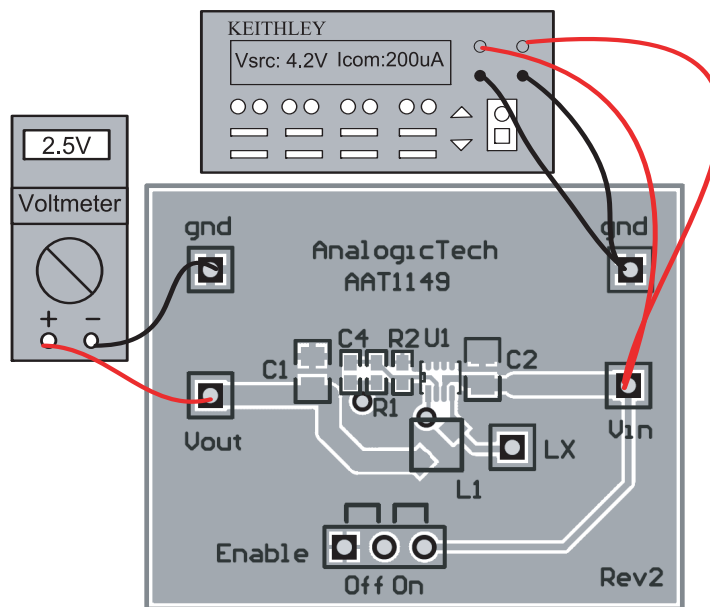

Figure 5: AAT1149 Evaluation Board Connection Diagram for Quiescent Current.
1. Configure the specified test equipment as shown in Figure 5.